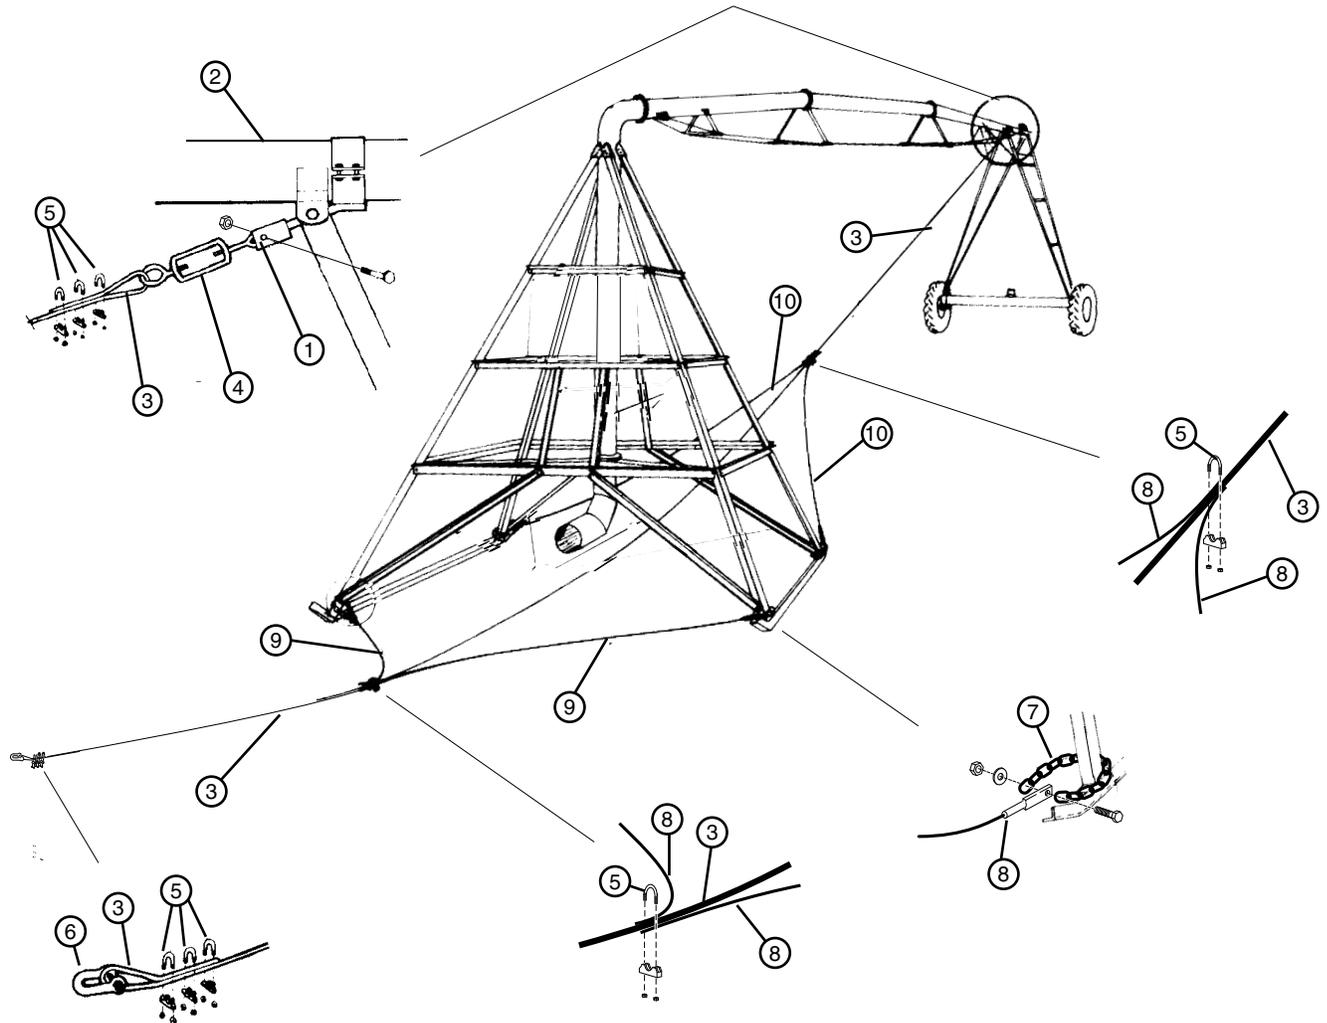

Figure 43-1
11. Install the tow cable attachment bracket on the span pipe above the drive unit. See Figure 43-1.
12. On one end of 1/2 in (12.7 mm) tow cable, extend 2 ft (610 mm) of cable through one of the eye bolts on turnbuckle, then clamp tow cable together with three 1/2 in (12.7 mm) cable clamps. See Figure 43-1.
13. Bolt the other eye bolt on turnbuckle to the tow cable attachment bracket. See Figure 43-1.
14. On the other end of 1/2 in (12.7 mm) tow cable, extend 2 ft (610 mm) of cable through a clevis and clamp with three 1/2 in (12.7 mm) cable clamps. See Figure 43-1.
15. Wrap chains around the bottom of each pivot leg, then bolt a pivot trail cable to each chain. See Figure 43-1.
- Adjust the leading trail cables on the tow cable, so that while towing, the leading ends of pivot skids raise approximately 4 in (102 mm) to prevent the skids from digging into the ground. See Figure 43-1.
- Adjust the trailing trail cables on the tow cable, so that while towing, the trail cables are taught. This will reduce the wallowing action of the skid pivot. See Figure 43-1.